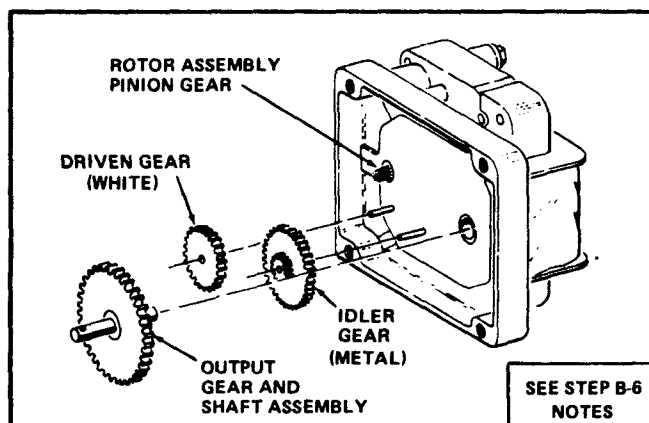

FIGURE I-5
8. Install the replacement Gears included in the Kit. See Figure I-5.